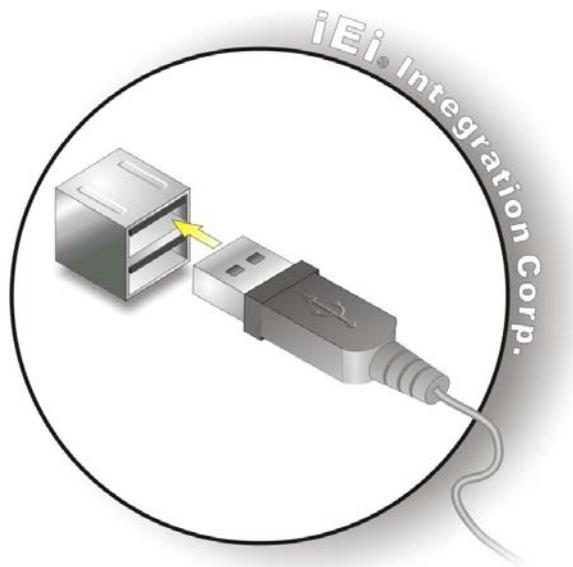

Figure 4-26: USB Device Connection
Step 6: Align the connectors. Align the USB device connector with one of the connectors on the bottom panel. See **Figure 4-26**.